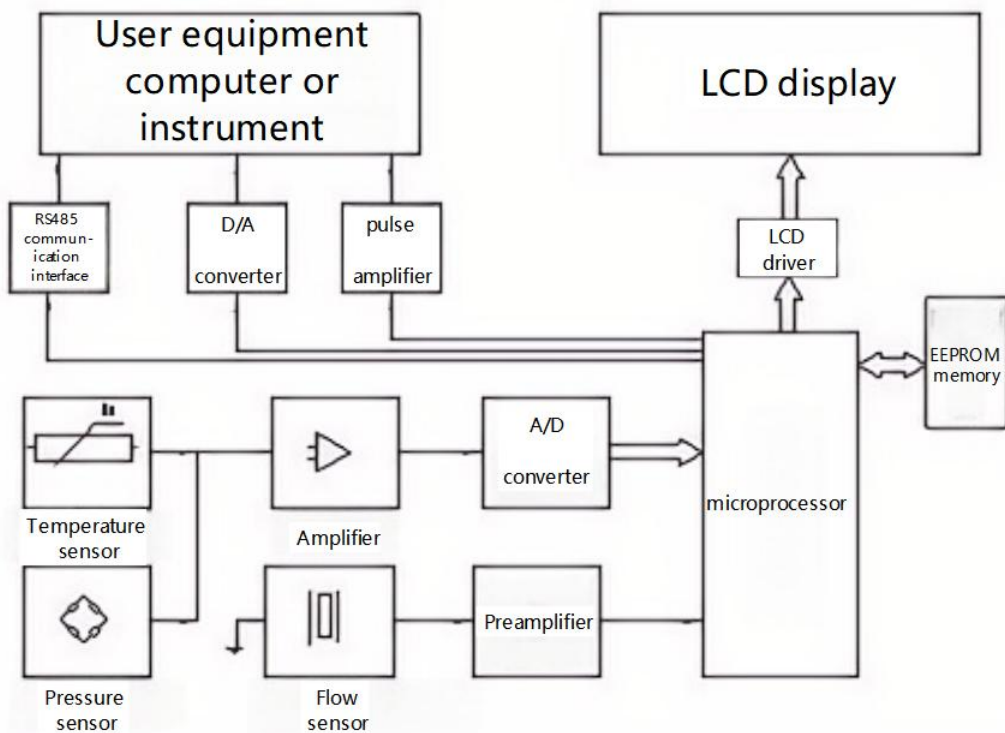

Figure 3
3. Intelligent Flow Totalizer (Principle shown in Figure 3)